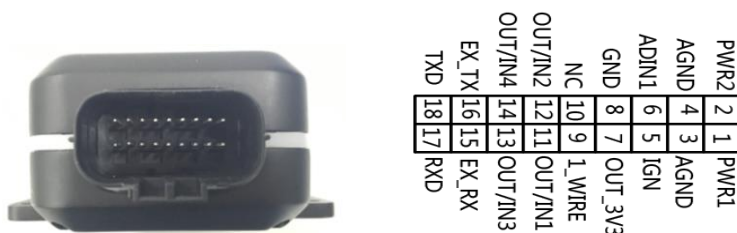

Figure 1. The 18-pin Connector on the GV600MA
2. Tighten the screws sufficiently until the rubber ring is squeezed out as shown in the following figure 1.